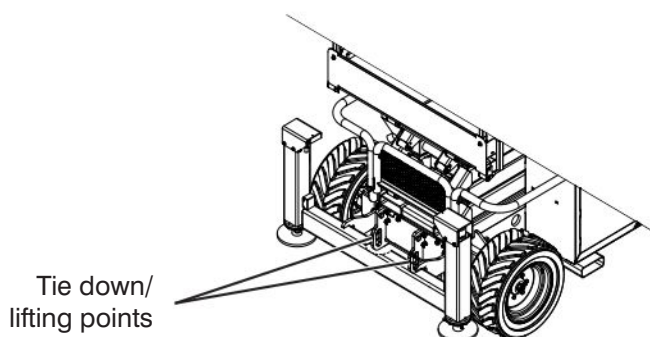

Figure 3-6. Tie Downs/Lifting Points
- The lifting/rigging must be attached to all four lifting points as illustrated in Figure 3-6.
**When transporting, the aerial platform must be secured to the truck or trailer deck. Tie downs are available as illustrated in Figure 3-6.**